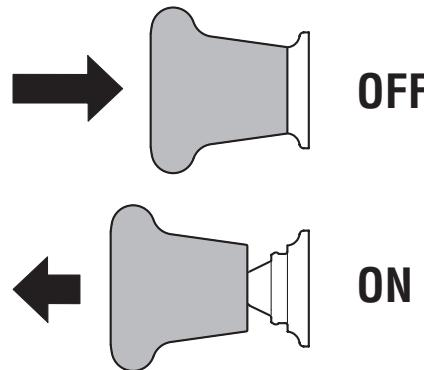

Figure 3-4
- Pull the PTO switch up/out into the engaged (ON) position. See Figure 3-4.